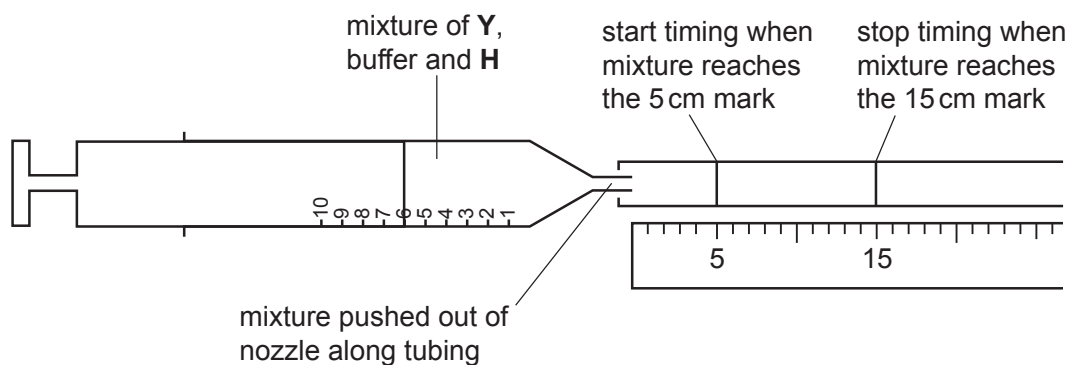

Fig. 1.5
15. Put the syringe and tubing on a flat surface, as shown in Fig. 1.5.